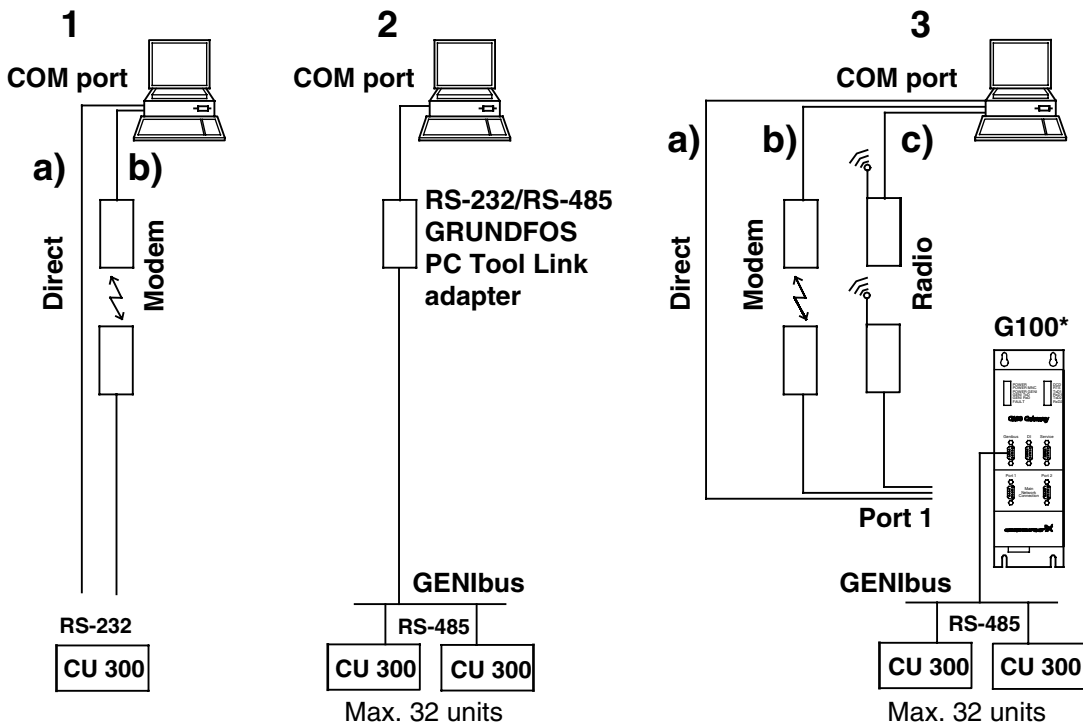

Fig . 1 Different connection options.
1. Using RS-232 for direct connection, see fig. 1, 1a, or connection via modem, see fig. 1, 1b.
2. Connection to GENIbus via the GRUNDFOS PC Tool Link adapter, see fig. 1, 2.
3. Via G100 port 1 (using the G100 Radio/Modem/PLC version in the following referred to as the R/M/P version), see fig. 1, 3.
The table below describes the different connection possibilities shown in fig. 1.
Locate PC Tool CU 300 in **Start | Programs | Grundfos PC Tools** and start it. The screen you will see depends on the tool setup chosen the last time the tool was started. If you have just installed the tool it has the Standard Tool Setup. This will work right away if you are using COM 1 port of your PC and your network connection is a direct RS-232 connection (fig. 1, 1a)). In this case a screen image as shown in fig. 3 will result (the number of CU 300 icons may differ from your system), and you can skip to section The Main window.